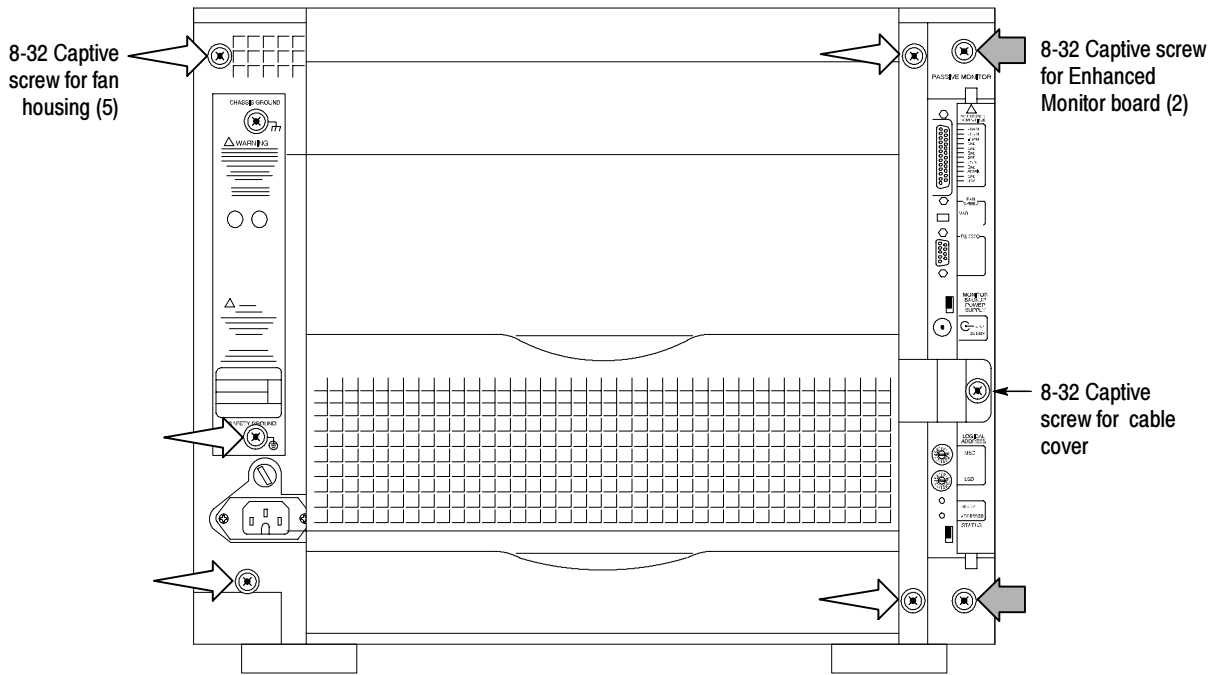

Figure 1: Location of screws for fan assembly removal
To remove the fan assembly, refer to Figures 1 through 3 while performing the following steps:
2. From the back of the chassis, unscrew the captive screw that attaches the cable cover (see Figure 1 on page 4). Remove the cable cover and set it aside.